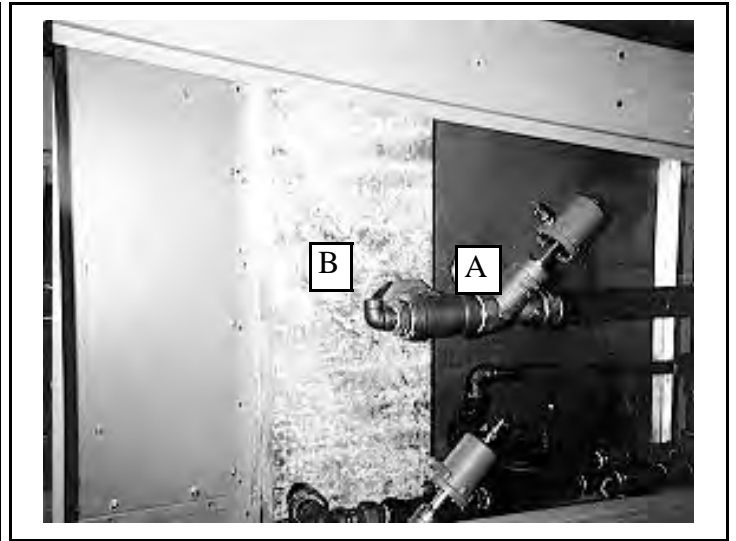

FIGURE 2 (MSSM0113AE)
3. Remove steam piping (provided on dryers only) (FIGURE 2, Item A).
4. Remove cover over steam coil outlets (FIGURE 2, Item B).